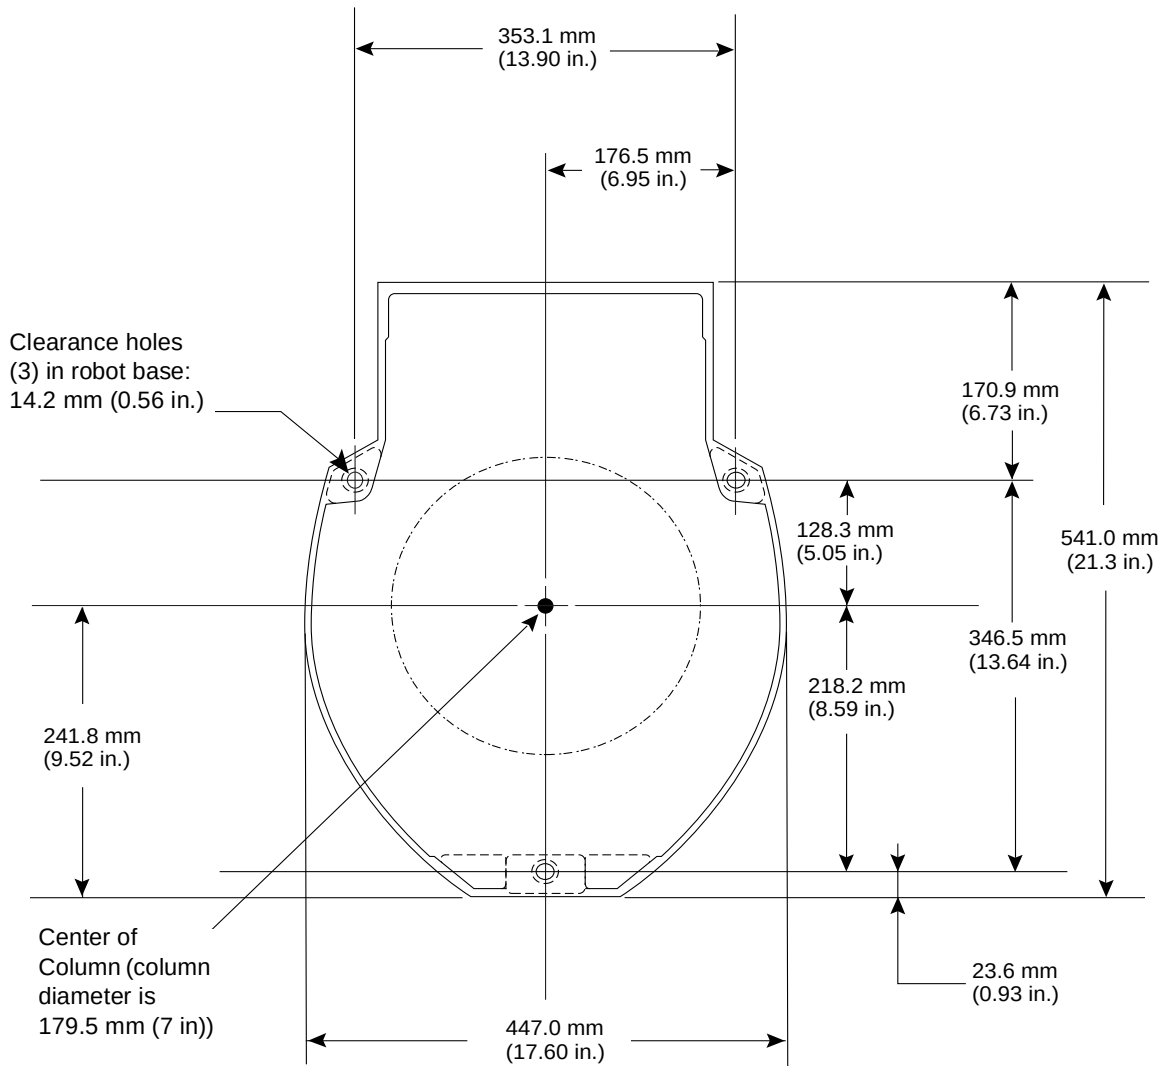

**Figure 3-2. Mounting Hole Pattern (Robot-to-Plate/Spool)**
See Figure 3-2 on page 55 for the robot mounting hole pattern.
Figure 3-2 shows the hole pattern for drilling the holes to mount the robot to the plate or spool.
1. Drill and tap three M12 (or 1/2-13 UNC-2B) mounting holes, as shown in Figure 3-2, for robot-to-plate attachment.
1. Drill and tap three M12 (or 1/2-13 UNC-2B) mounting holes (through) in the top of the spool, as shown in Figure 3-2, for robot-to-spool attachment.